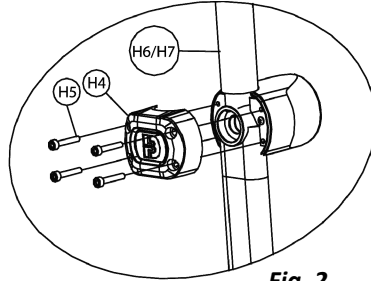

Fig. 2.
11. The handlebar pivot fixing hardware will be pre-installed on the console mast (**C**) as shown in **Fig. 2**. Remove bolt **H1** and washer **H2** from the left and right sides of the pivot axle, and set aside.
13. Handlebars (**H6 & H7**) are packaged with the pivot covers (**H4**) installed. Remove the four (4) hex fixing bolts (**H5**) and pivot cover (**H4**) from each handlebar as shown in **Fig. 2**. and set aside.